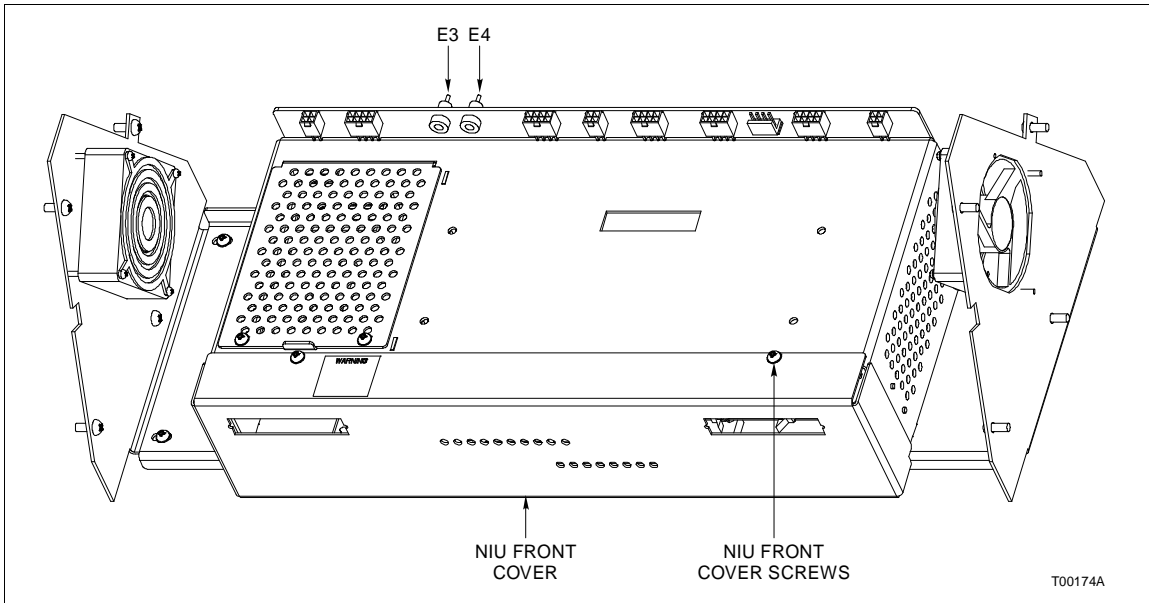

Figure PR33-1. NIU Card Cage with Covers Installed
- 3. Use the Phillips head screwdriver to remove the two NIU front cover screws (Fig. PR33-1).